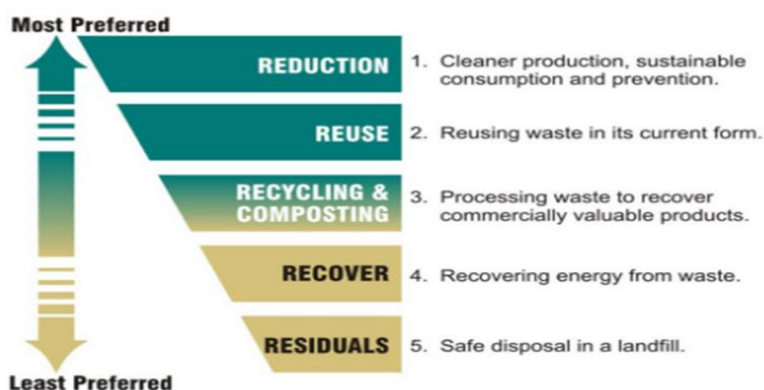

Fig. 2.1: e-waste Management Process
9. The basic waste management hierarchy is shown below in Figure 2.1.